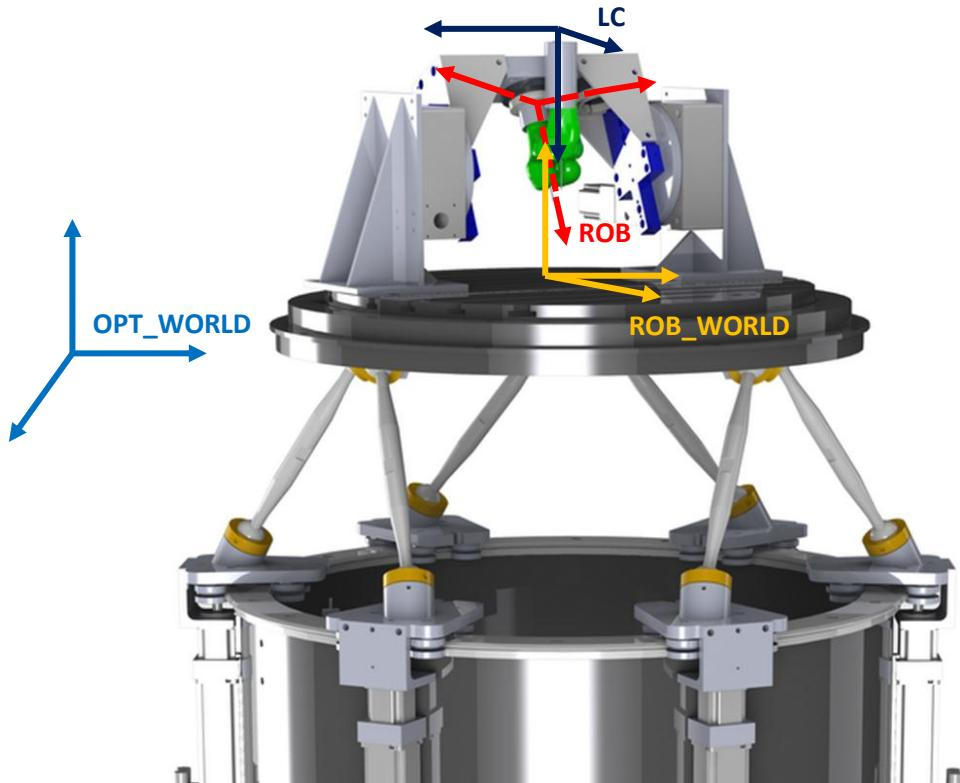

Figure 1: Coordinate Systems for Tibiofemoral testing
3. Transformation from OPT_WORLD to TIB (Figs. 1 and 3A)
4. Transformation from ROB to FEM_ORI (Figs. 1 and 3B)
5. Transformation from ROB to FEM_OPT (Figs. 1 and 3B)
7. Transformation from OPT_WORLD to ROB_WORLD (Fig. 1)
8. Transformation from LC to TIB (Figs. 1 and 3A)
9. Transformation from OPT_WORLD to LC (Fig. 1)